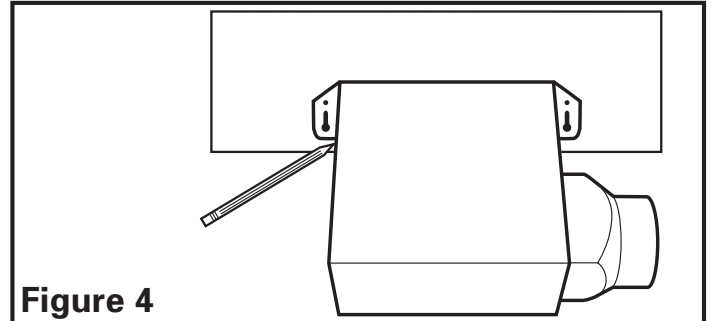

**Figure 3**
1. Using the gauge on the fan's housing (**Figure 3**), line up housing so that it will be flush with the finished ceiling or wall. Position the fan so that the tabs rest flat against the joist or stud and secure with four nails (not provided) to ensure proper installation.
1. Position housing against the joist or stud and trace an outline of the housing onto the ceiling/wall material (**Figure 4**). Set housing aside and cut opening, being careful not to cut or damage any electrical or other hidden utilities. Place housing next to the joist or stud and insure that it is flush with the finished ceiling. Secure with four nails (not provided) to ensure proper installation (**Figure 3**).